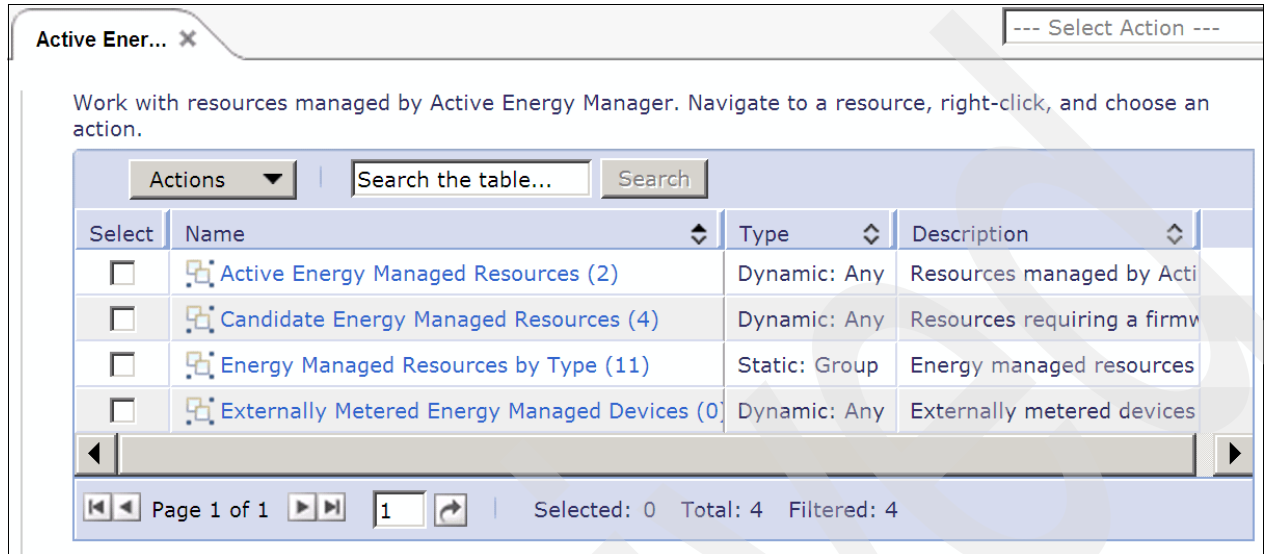
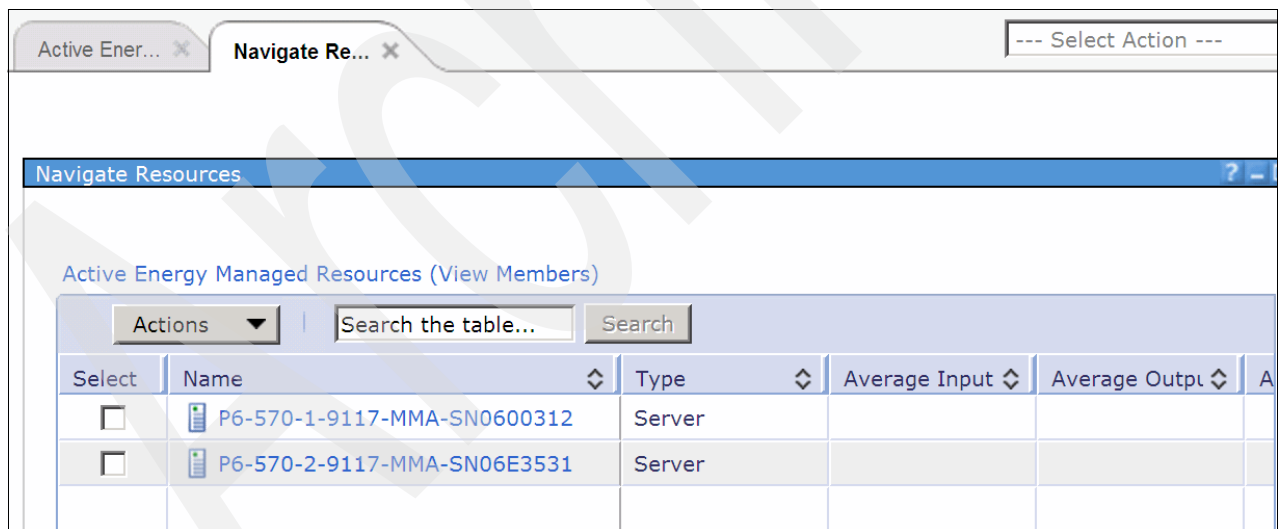
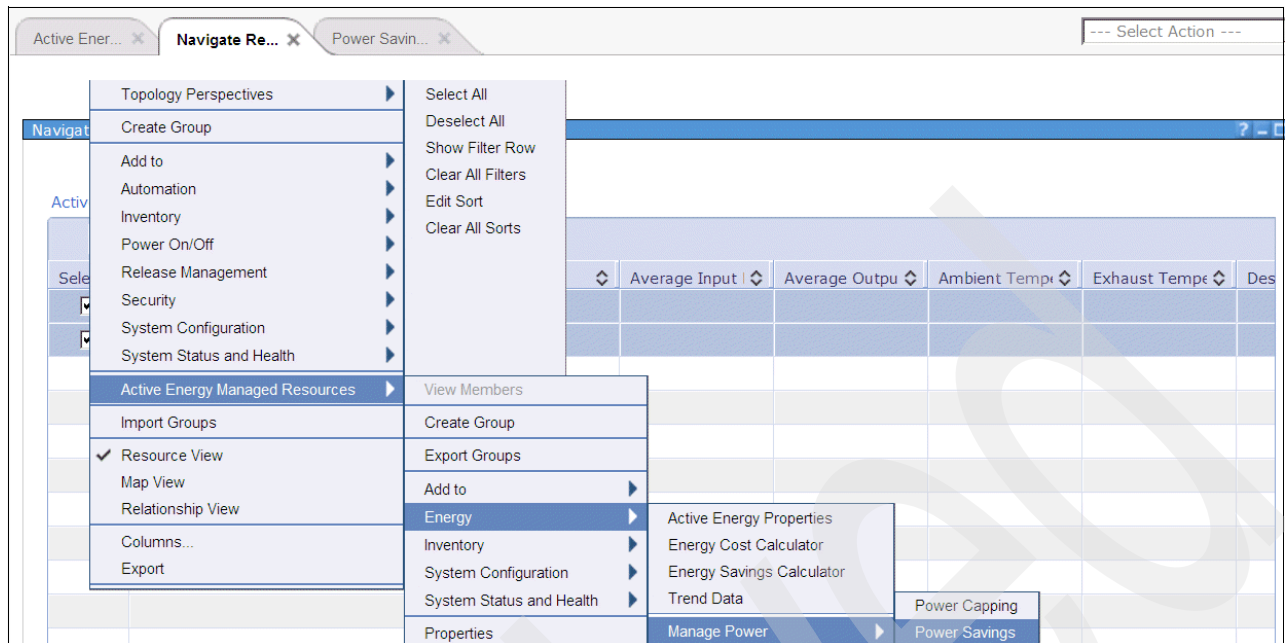
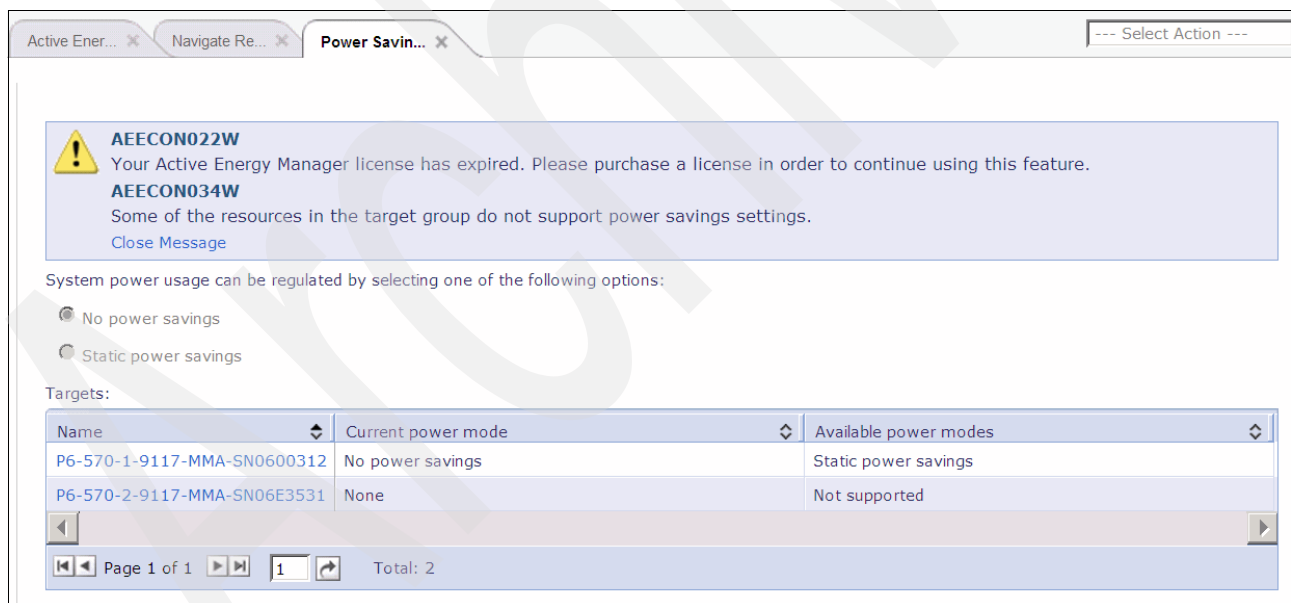

Figure 3-81 Active Energy Manager monitor options
Figure 3-82 Navigate Resources via Active Energy Manager
Figure 3-83 Navigating to Active Energy Manager Power Savings menu
Figure 3-84 Active Energy Manager Power Savings tab
By clicking the **Active Energy Manager** link, the main Active Energy Manager interface is displayed, as shown in Figure 3-81. This interface displays information and options relative to energy monitoring and management. For this implementation, we selected the **Active Energy Managed Resources (2)** link, which displayed content that is shown in Figure 3-82 on page 83.
Figure 3-82 shows the result of the selection that we made in Figure 3-81 on page 83. Note that the two POWER6 boxes are listed. We refer to these servers as Big Box and Little Box.
After checking both boxes in the Select column in Figure 3-82, click and navigate through these choices **Active Energy Managed Resources** → **Energy** → **Manage Power** → **Power Savings**. Figure 3-83 shows these options.
Figure 3-84 shows the result of choosing Power Savings in Figure 3-83 on page 84. Active Energy Manager indicates that only one of the two boxes supports power savings.